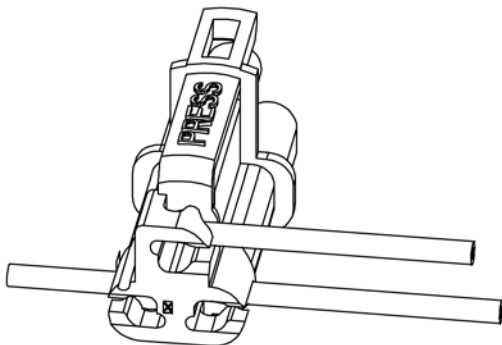

Figure 4
3. Pull the wire down through the slot in the strain-relief. See Figure 4.